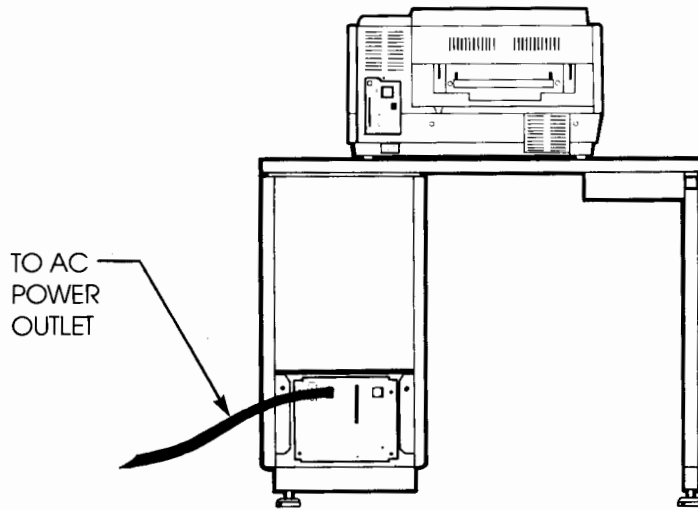

Figure 3-3. Connecting Controller's AC Power Cord
- e. Connect the controller's AC power cord to the AC input power receptacle and plug the other end of the cord into the AC power outlet (see figure 3-3).